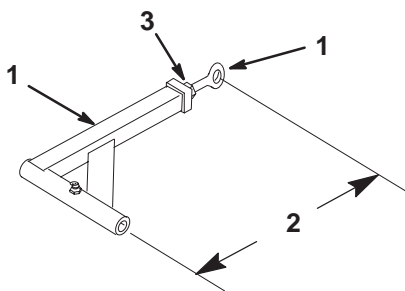

Figure 55
11. If the fixed idler contacts the end of the adjustment slot and more belt tension is required, a small change in the lengthen the push arms can be made (Fig. 55).
12. To adjust push arms, loosen jam nut and rotate ball joint counterclockwise, one turn at a time. Adjust each side the same amount (Fig. 55).